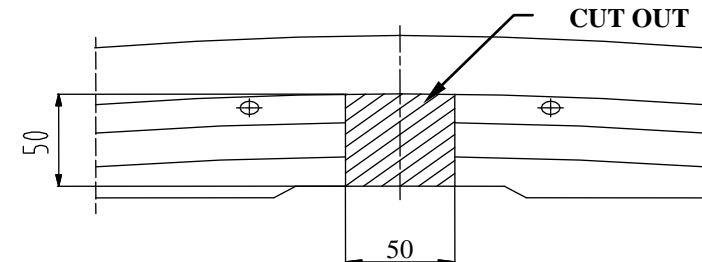

Fig.2.
3. In maked holes put sleevesi  $\varnothing 17$  mm (pos. 8), length = 73 mm.
4. To rear side put base bar of towbar (pos. 1) in that way, so holes pos. A agree to holes for unscrewed reinforcement and screw using bolts M8x35mm (loosely) – pos. 13.
5. Elements (pos. 4 and 5) put to chassis members and rear side and screw using bolts M10x110 mm (pos. 11) and M10x35mm (pos. 12).
6. Assemble masking cover and bumper after cut his fragment 50x50mm – see fig. 2.